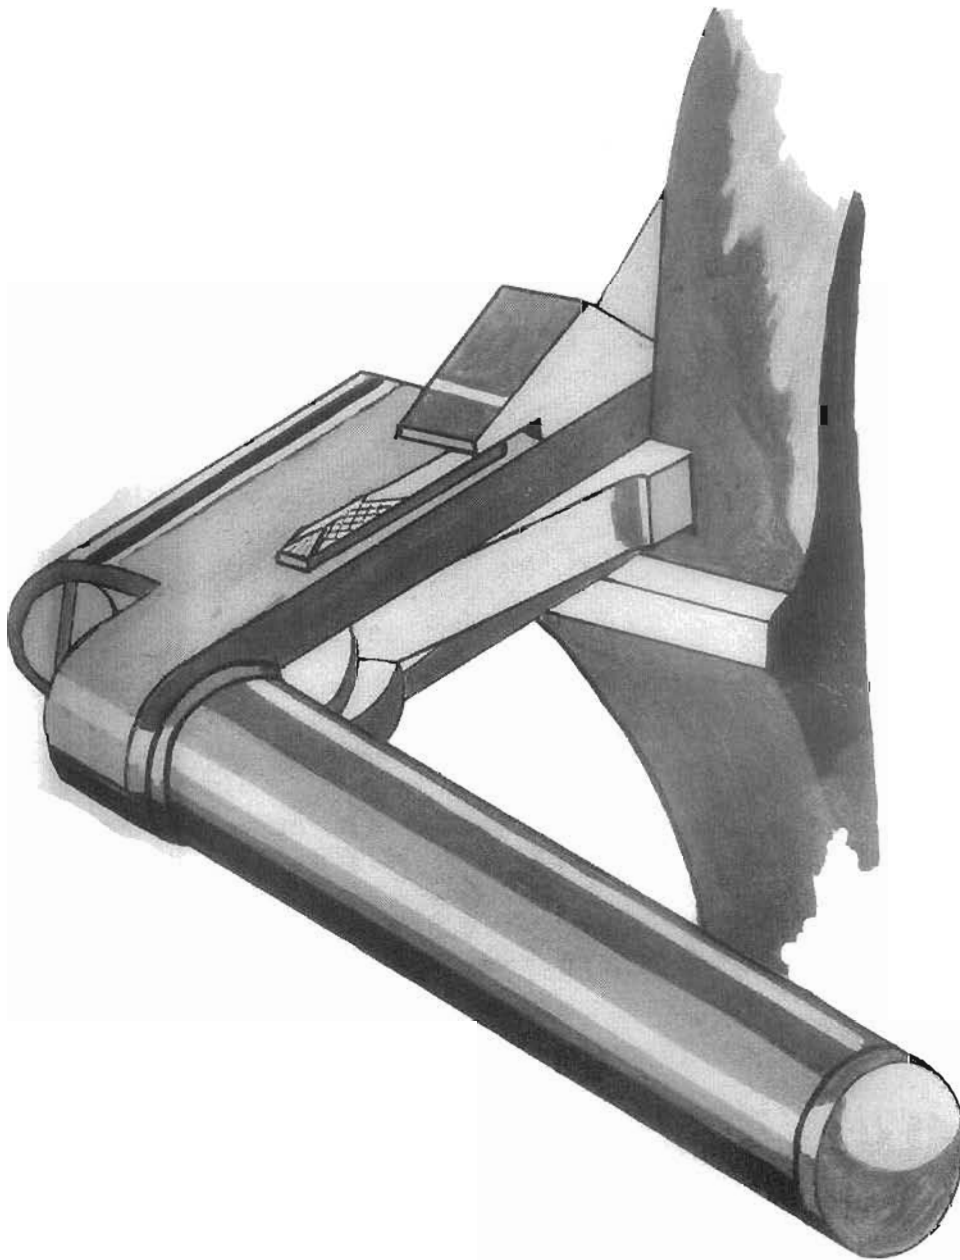

Figure 24
- A. When the breechblock is closed, it is automatically locked by heel of breechblock latch engaging in latch catch on breech hoop (fig. 24).